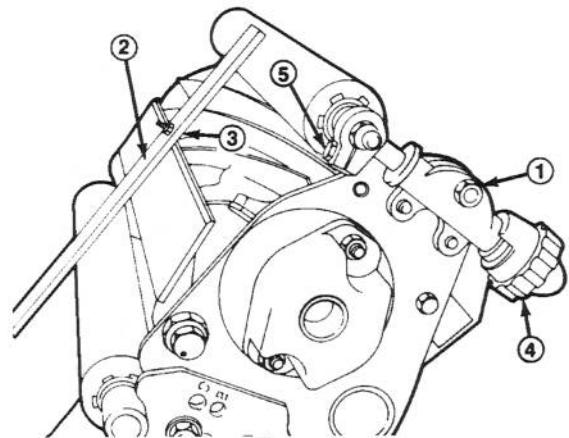

Figure 7
4. Place the bar across the front and rear rollers and adjust the height-of-cut knob until the underside of screw head engages the bedknife cutting edge (Fig. 7).
1. Assure rear roller is in the desired height-of-cut position. Loosen the bolts anchoring the front roller shaft. Rotate the shaft (Fig. 7).
- 3. Tighten the roller shaft bolts (Fig. 7).